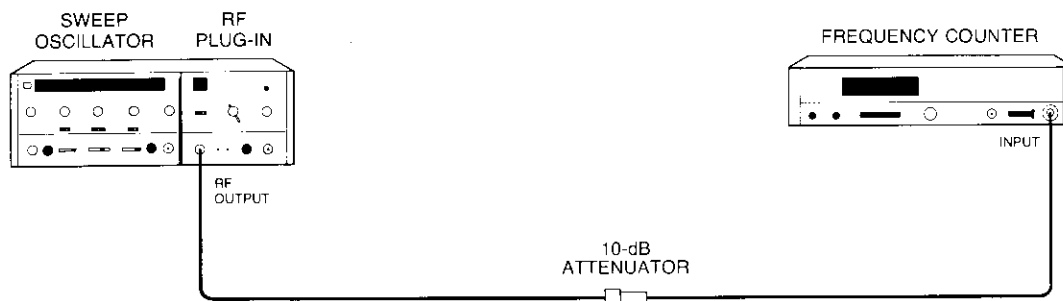

Figure 4-1. CW and Manual Sweep Accuracy Test Setup
Equipment listed is for two test setups (Figures 4-1 and 4-2).
- a. Connect equipment as shown in Figure 4-1.